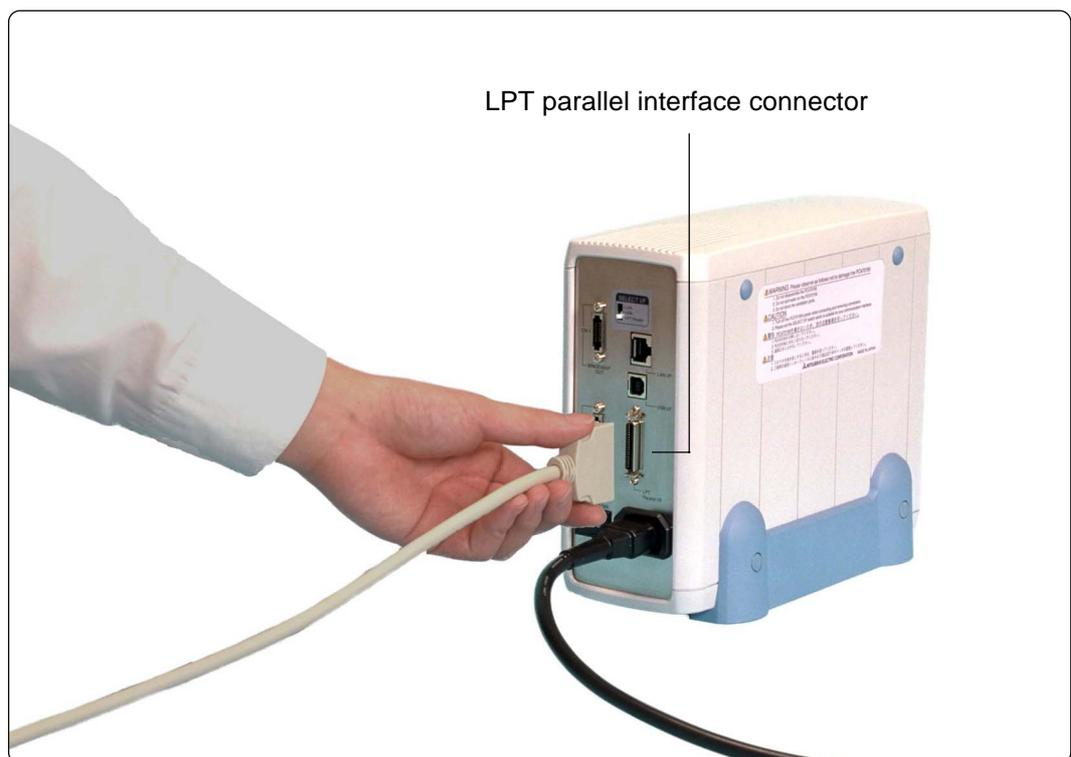

Figure 4.8 Connecting LPT parallel interface cable (emulator PC4701U side)
▶ *Figure 4.8 Connecting LPT parallel interface cable (emulator PC4701U side) (P.35)*